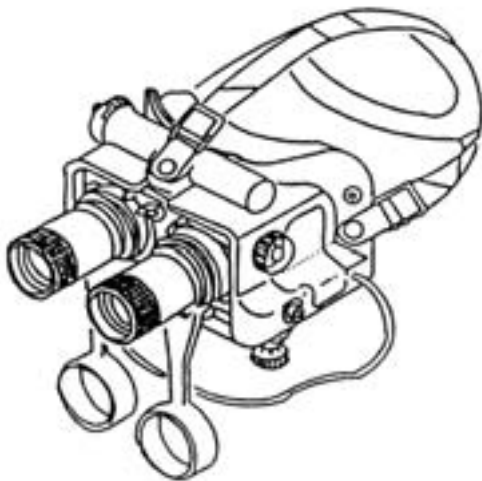

Figure 3-49. AN/PVS-5, NVG.
c. **Night Vision Goggles, AN/PVS-5.** The AN/PVS-5 NVG is the currently fielded NVG; however, the AN/PVS-7B NVG will begin to augment/replace it in the future. The NVG functions and is used in basically the same way as the AN/PVS-7B NVG although the range is less, 150 M moonlight and 50 M starlight. See figure 3-49.